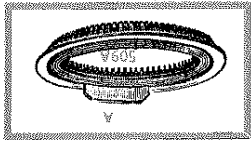
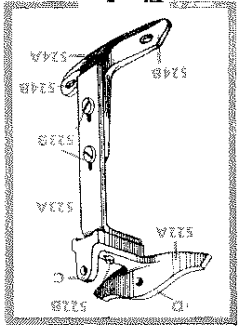

Fig. 4
Fig. 7
The gear-ring (Fig. 4) works in the base, having on its under-side cogs which fit in the cogs of the driving wheel (503A). The projecting part (a) to which the yarn-guide is secured drives the cam shell.
not brought into use, being sunk behind and below the cover plate B, but in the backward movement upthrow cam C acts instead of B, which in this movement sinks below cover plate D. These cams B and C are raised above the cover plates D and E by the projecting piece A (Fig. 4) of the gear-ring, which operates them by two pins which pass through to the outside of the cam shell.
Fig. 7, the combination yarn-guide and latch-opener (522A), is secured to an upright (523A) by two screws (523B), the screw holes are slotted so that the yarn-guide can be raised or lowered to the required position to suit the needles. The bracket is screwed to the gear-ring at A (Fig. 4). Screw (522B) is to adjust the yarn-guide towards or away from the needles. The yarn is threaded from the back, first through hole (C) then through hole (D).